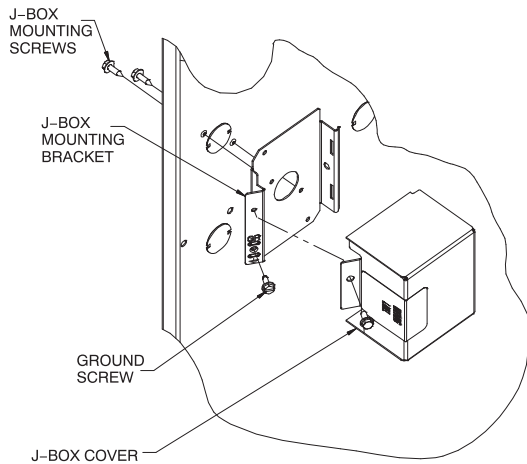

Fig. 34 – Installing J-Box (When Used)
The J-Box cover, mounting bracket and screws are shipped in the loose parts bag included with the furnace. See **Fig. 34** for J-Box mounting locations.
1. Drill two (2) 1/8-in. (3 mm) pilot holes through the dimples in the furnace casing near the 7/8-in. knock-out on the side of the casing. Do not remove the knock-out in the side of the casing.
9. Connect field power and neutral leads to furnace power leads inside the external electrical box as shown in **Fig. 34**.
1. Install J-Box mounting bracket to inside of furnace casing. See **Fig. 34**.
- Connect field ground wire and factory ground wire to green ground screw on J-Box mounting bracket as shown in **Fig. 34**.
- Attach furnace J-Box cover to mounting bracket with screws supplied in loose parts bag. Do not pinch wires between cover and bracket. See **Fig. 34**.
- Install J-Box mounting bracket to inside of furnace casing. See **Fig. 34**.